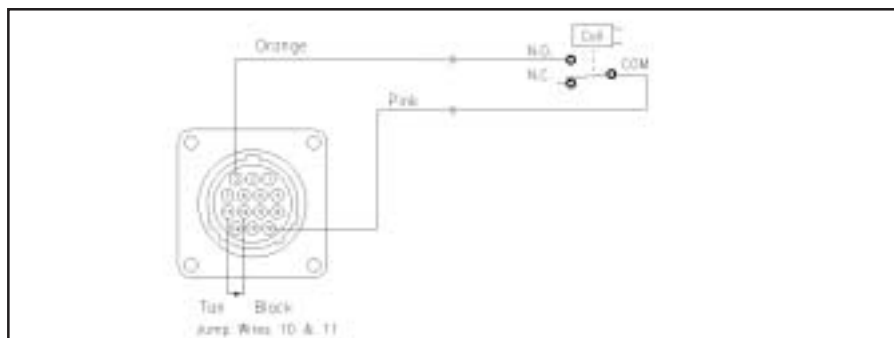

Figure 7-5 Relay Contacts
- a. Verify the orientation (as shown in Figure 7-5), the notch should be on the side closest to the 50-pin ribbon cable connection).